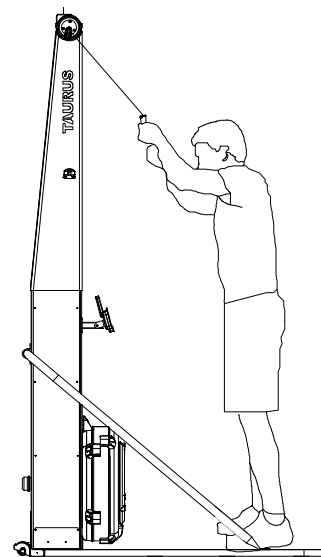

Fig. 25
6. Slowly raise your arms and return to your starting position (Fig. 25).